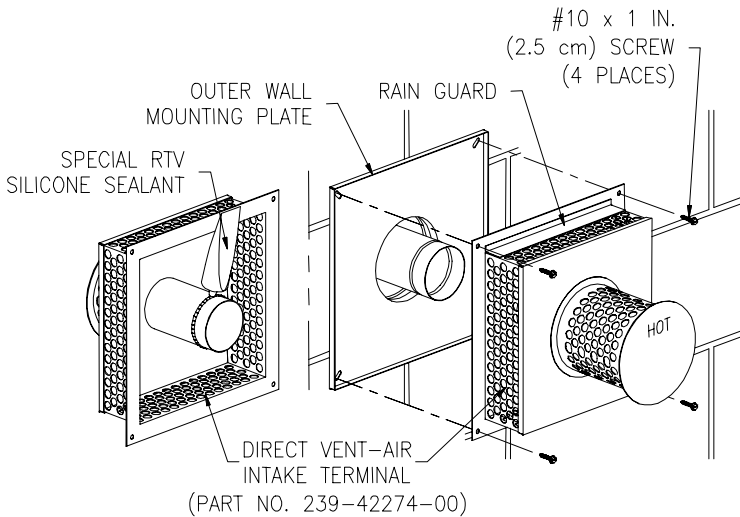

Figure 17
8. Using the supplied RTV silicone sealant, apply a bead one (1) inch (2.5 cm) from the end of the four (4) inch (10.2 cm) diameter tube that is part of the vent-air intake terminal. Slide the direct vent-air intake terminal into the four (4) inch (10.2 cm) diameter telescopic tube that extends through the wall and position it so it is flush with the outer wall mount plate. Make sure that the rain guard and the word "HOT" on the end of the direct vent-air intake terminal are oriented properly. Secure the direct vent-air intake terminal to the outer wall mount plate and wall with four (4) #10 x 1 inch screws (supplied). (See Figure 17). Note: Certain construction of walls may require the use of different type of anchoring means than supplied. DO NOT modify the direct vent-air intake terminal or outer wall mount plate